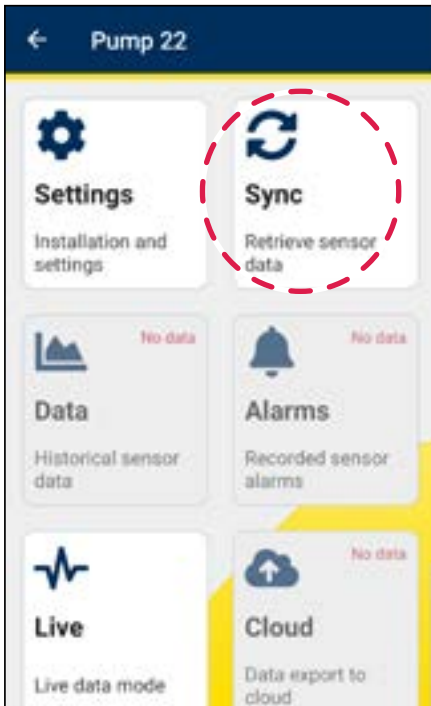

Figure 11
2. Select **Sync** (see figure 11).